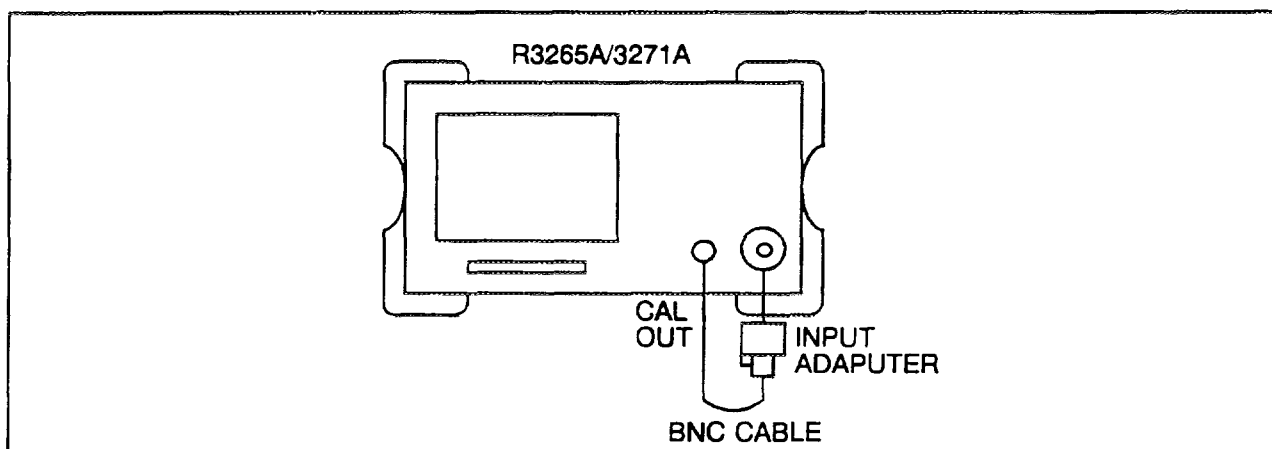

Figure 4-8 Resolution BW Switching Uncertainty Test Setup
(1) Connect the R3265A/3271A CALOUT to the INPUT 50 Ω as shown in Figure 4-8.
(2) Press the **PRESET** key, the **SHIFT** key and the **CAL** **7** key **EACH** **TEM** **RBW** **SWITCH**.